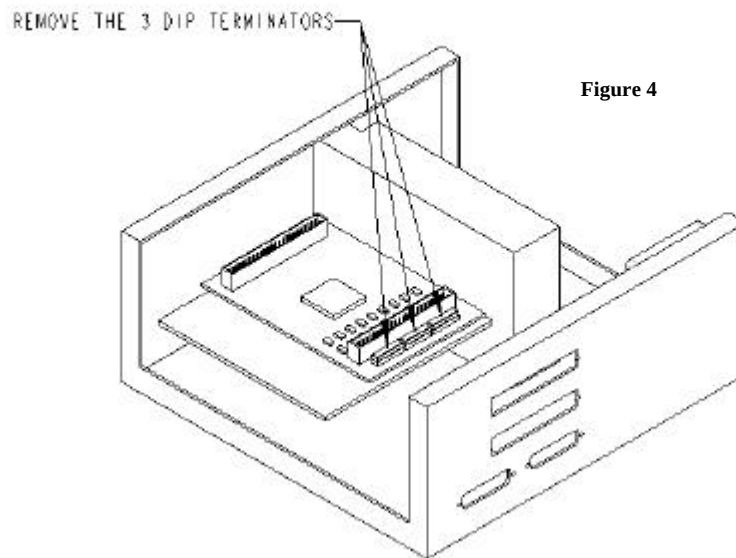

Figure 4
- Using a small flat bladed screwdriver, remove the three yellow DIP terminators, as shown in Figure 4, and discard.